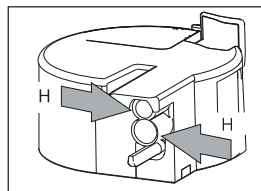
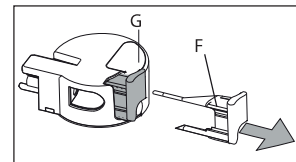

Fig. 46
Fig. 47
- Remove the frothed milk regulator (F) by pulling it outwards.
- Wash all the components thoroughly with hot water and mild washing-up liquid. Make sure there are no milk residues left inside the holes (Fig. 46) and the groove on the fine end of the frothed milk regulator (Fig. 47).